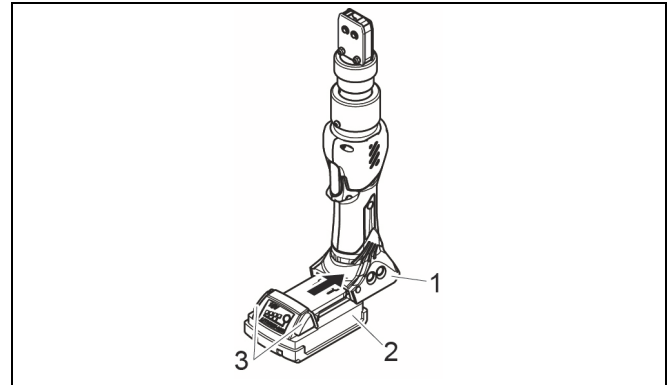

Fig. 11: Inserting the battery
- Slide battery (Fig. 11/2) into clamp pincer CP 10 / CP 20 / CC 20 (Fig. 11/1) until the safety catch locks.
The battery is inserted when the buttons (Fig. 11/3) move and a click noise is audible.